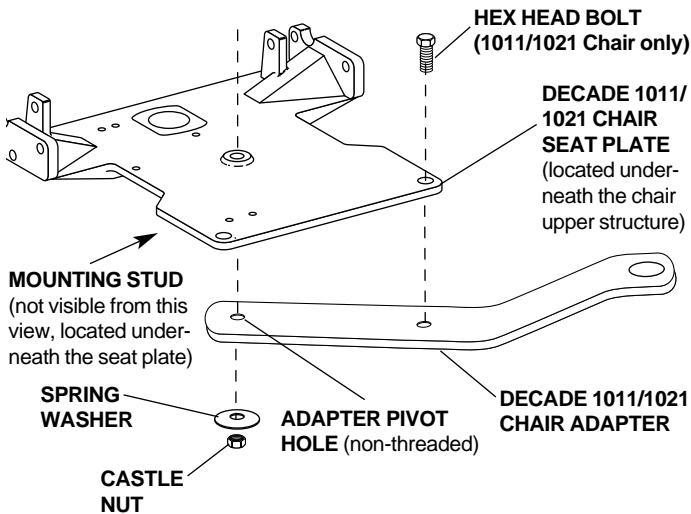

FIGURE 4
4. **Decade chair:** Locate the adapter mounting stud near the underside, center of the seat plate. Carefully slip the adapter pivot hole (non-threaded) up onto the mounting stud (see Figure 4). Install the spring washer (concave [hollowed] side up) and castle nut onto the mounting stud. Tighten the castle nut. Back the castle nut off one-half turn and install the cotter pin.
5. Position the adapter for either right or left hand mounting. Align the threaded adapter hole with the hole in the chair seat plate (see Figure 4). Install the hex head bolt through the seat plate and into the adapter. Using a torque wrench, firmly tighten the hex nut to 55 foot pounds.